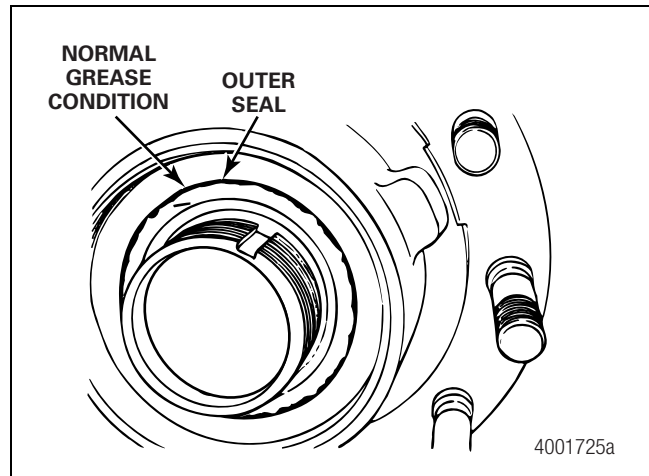

Figure 2.9
3. Check the hub outer grease seal for leakage. A small bead of grease around the perimeter of the seal is normal. Figure 2.9.